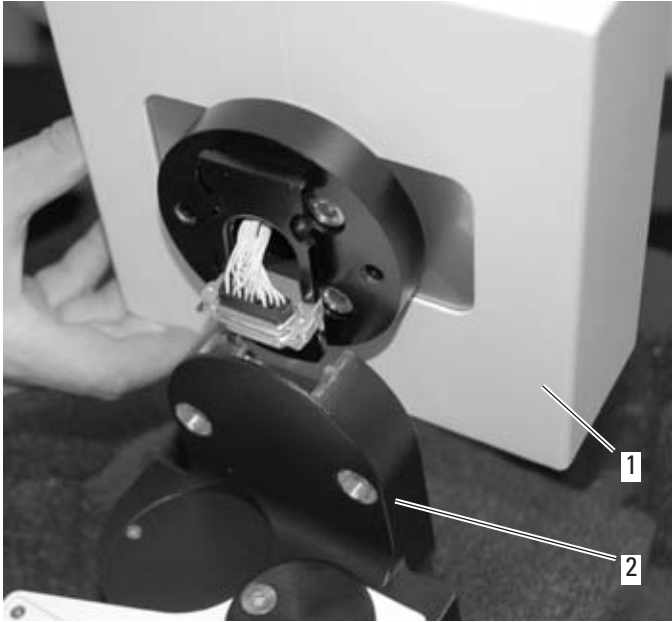

Fig. 1
⇒ Insert the XY-unit (1) into the dovetail guide of the tilt drive (2) (Fig. 1).